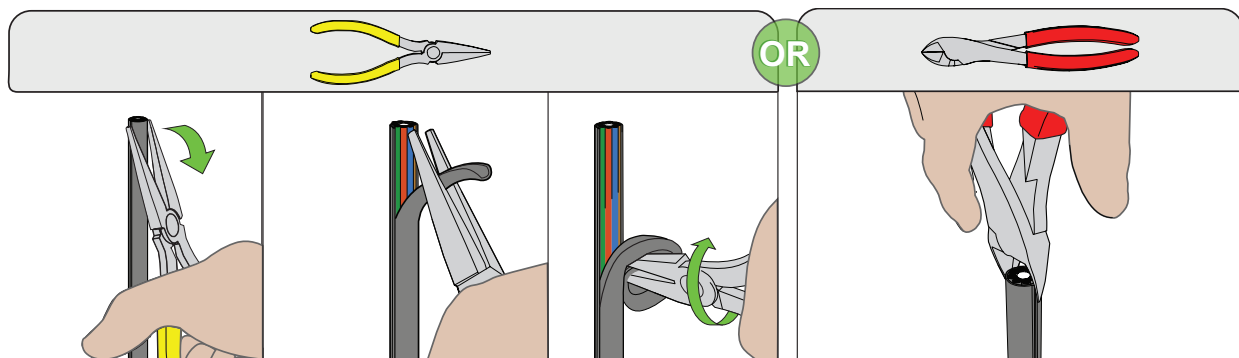

Figure 4
**NOTE:** *Other options: Use needle-nose pliers or side-cutters to start tear (Figure 4).*